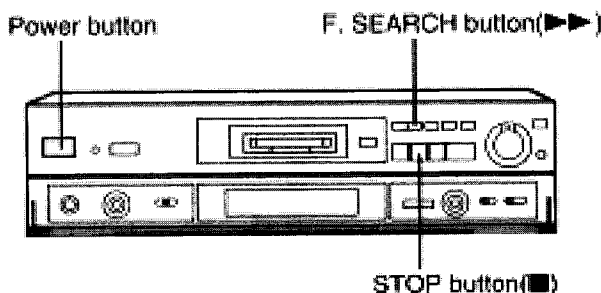

Fig. 17-1.
2. With no MD loaded in the unit, press and hold the STOP button (■) for at least 2 seconds. And then while still pressing the STOP button (■), press the F.SEARCH button (▶▶) for at least 2 seconds. The unit is set to the self-diagnostic function and is displayed "MD TEST". Refer to Fig. 17-1.